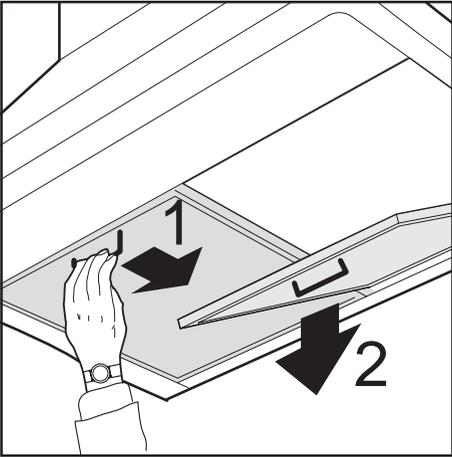

Fig. 10
- Remove the grease filters (Fig. 10).